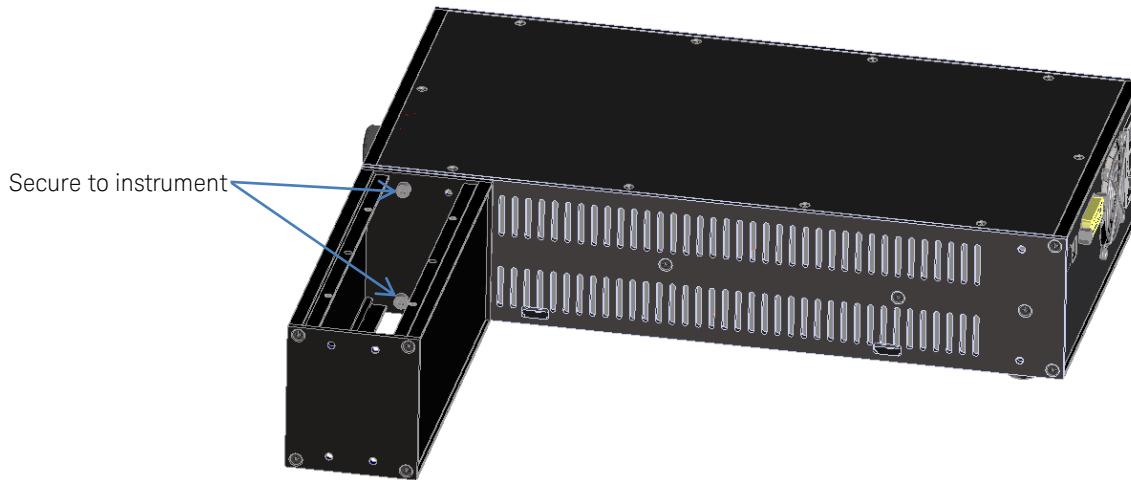

Figure 3: Secure rack mount kit to instrument with shoulder bolts
5. Secure the rack mount kit to the side of the instrument with the two shoulder bolts as shown in Figure 3.